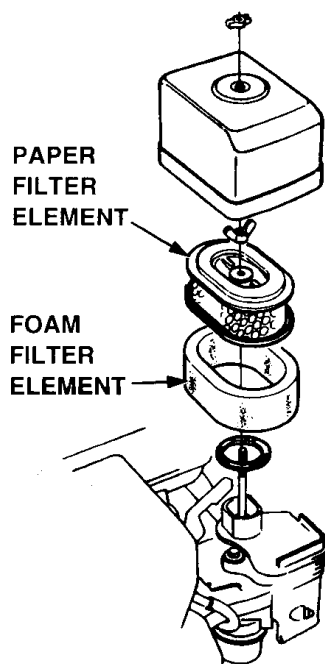

Figure 17. Air Filter
2. To clean or replace air filter loosen the wing nut on the air filter housing (Figure 17), remove the cover and take out air filter cartridge. If only cleaning of the air filter is desired blow through the air filter cartridge from the inside, moving a jet of dry compressed air up and down until all dust is removed.